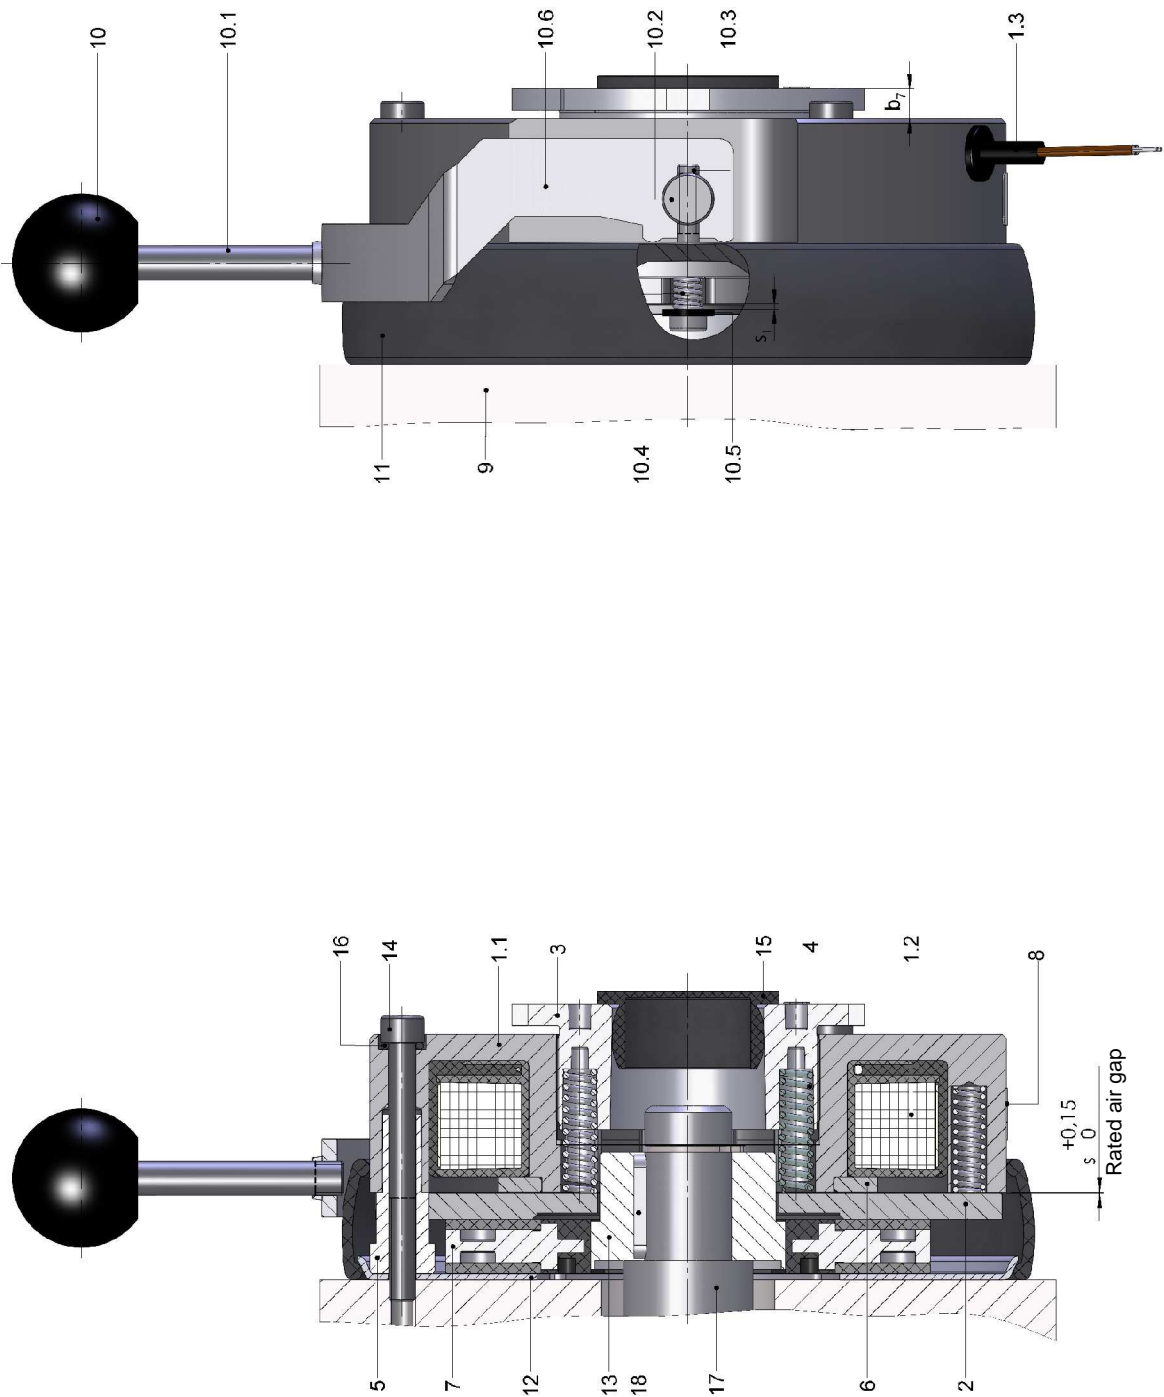

Fig. 6/1: Spring-applied single-disc brake 76 431..H00
The solenoid housing (1.1) of the spring-applied single-disc brake accommodates the firmly fitted field coil (1.2) with connecting cable (1.3) – which exits on the brake circumference – and the compression springs (4). The compression springs (4) press the friction disc (7) over the armature (2) against the friction plate or flange¹⁾ (12) and thus against the mounting surface (9) (e.g. motor end shield). The frictional connection obtained in this manner between the friction surfaces of the friction disc (7) and armature (2) or friction plate (12) / flange (12) produces the braking effect of the spring-applied brake. The rated air gap 's' is factory-adjusted by means of the spacer sleeves (5). The spacer sleeves (5) are tightly pressed into the solenoid housing (1.1). They ensure that the armature (2) is kept in a fixed tangential position. The friction disc (7) is connected with the hub (13) via a spline connection or square socket²⁾. This connection ensures that the friction disc (7) is tangentially fixed, but movable in axial direction. The hub (13) is firmly fixed to the shaft (e.g. motor shaft) (17). The brake is firmly mounted to the mounting surface (e.g. motor end shield) (9) with the mounting screws (14) (see Fig. 6/1).
Key to Fig. 6/1:
Insert the 2 tie bolts (10.2) into the bores provided in the yoke (10.6). Push the yoke (10.6) with the inserted tie bolts (10.2) into the cavity provided in the spring-applied single-disc brake. (Only brakes with hand release option will have this cavity.) Push the 2 discs (10.5) and the 2 return springs (10.4) on a socket head cap screw (10.3). Apply Loctite 241 to the 2 socket head cap screws (10.3). Insert the screws with the discs (10.5) and return springs (10.4) through the bores provided in the solenoid housing (1.1) and fasten them with the 2 tie bolts (10.2). Use a feeler gauge to adjust the distance s_1 (see Table 8/1 and Fig. 6/1) when the brake is released (attracted armature (2)). Check that s_1 is not exceeded and that it is evenly adjusted on both socket head cap screws (10.3). Screw the hand release lever (10.1) into the yoke (10.6) and secure it by applying Loctite 241. The required actuation forces F and the maximum permitted actuation forces F_{\max} are specified in Table 8/1. The specified actuation forces F apply at the maximum rated torque (standard).
Check that the hand release (10) is in a central position (see Fig. 6/1) when not in use. This is crucial to ensure reliable brake engagement. Otherwise, the full braking effect of the spring-applied single-disc brake may not be reached. In this case, the machine (e.g. motor) must be stopped immediately and must not be restarted until correct operation of the hand release (10) and automatic return of the hand release lever in its central position (see Fig. 6/1) has been ensured.
Pull the collar (11) over the solenoid housing (1.1). Check that the sealing lip of the collar (11) is located precisely between the friction plate (12) and the mounting surface (e.g. motor end shield) (9) on the mounting surface side or precisely in the flange (12) groove (sizes 19 to 29) (see Fig. 6/1). Ensure that on the brake side the collar (11) sealing lip touches the circumference of the solenoid housing (1.1) or is located in the groove (sizes 19 to 29). When a collar (11) is fitted to the brake, the hand release (10) can only be operated by pushing the lever away from the mounting surface (e.g. motor end shield) (9).
The screw plug (15), if used, must be inserted into the shaft opening on the rear of the brake (see Fig. 6/1).